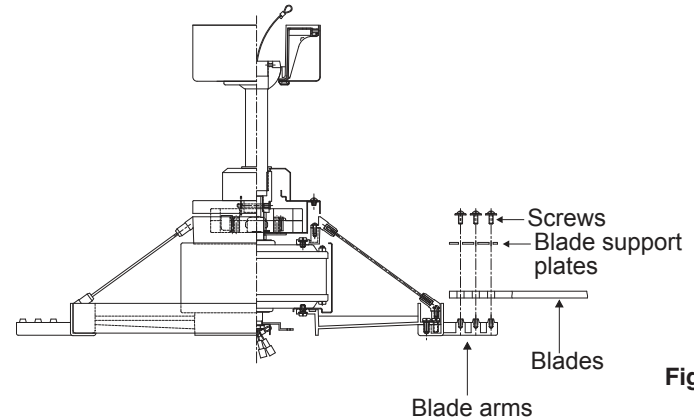

Fig. 15
Step 1. Align the holes from the blade and blade support plate to the holes from the blade arms, and secure the blade in place with screws provided. (Fig. 15)